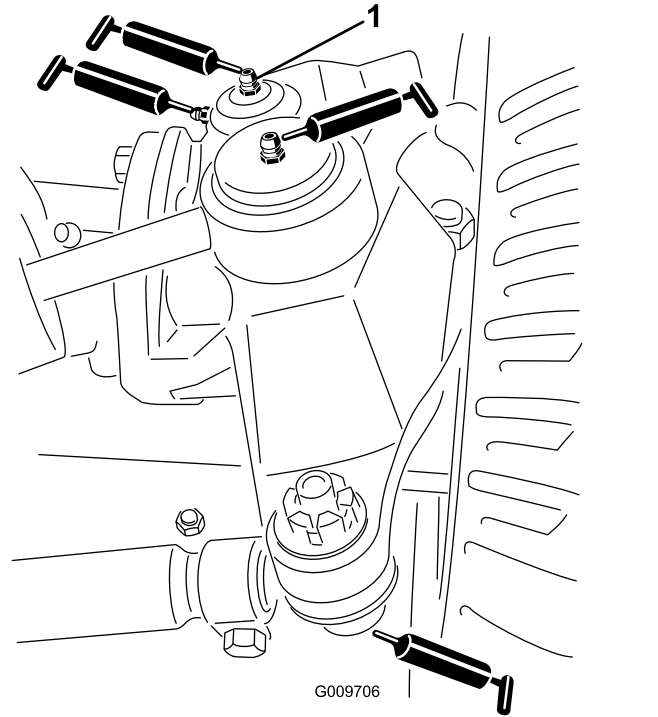

Figure 83
- Steering cylinder ball joints (2) (Figure 83)
- Tie rod ball joints (2) (Figure 83)
- King pin bushings (2) (Figure 83). **The top fitting on the king pin should only be lubricated annually (2 pumps).**